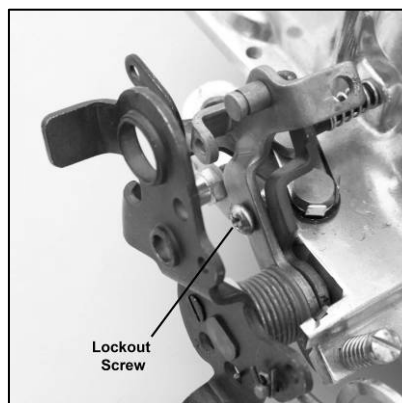

Figure 7—Ford applications
3. Remove the lockout screw from the kickdown lever (Figure 7).